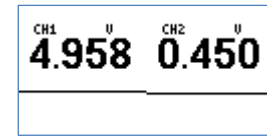

Figure 60: Meter mode
- 3) You should see similar voltages as shown on figure 60.